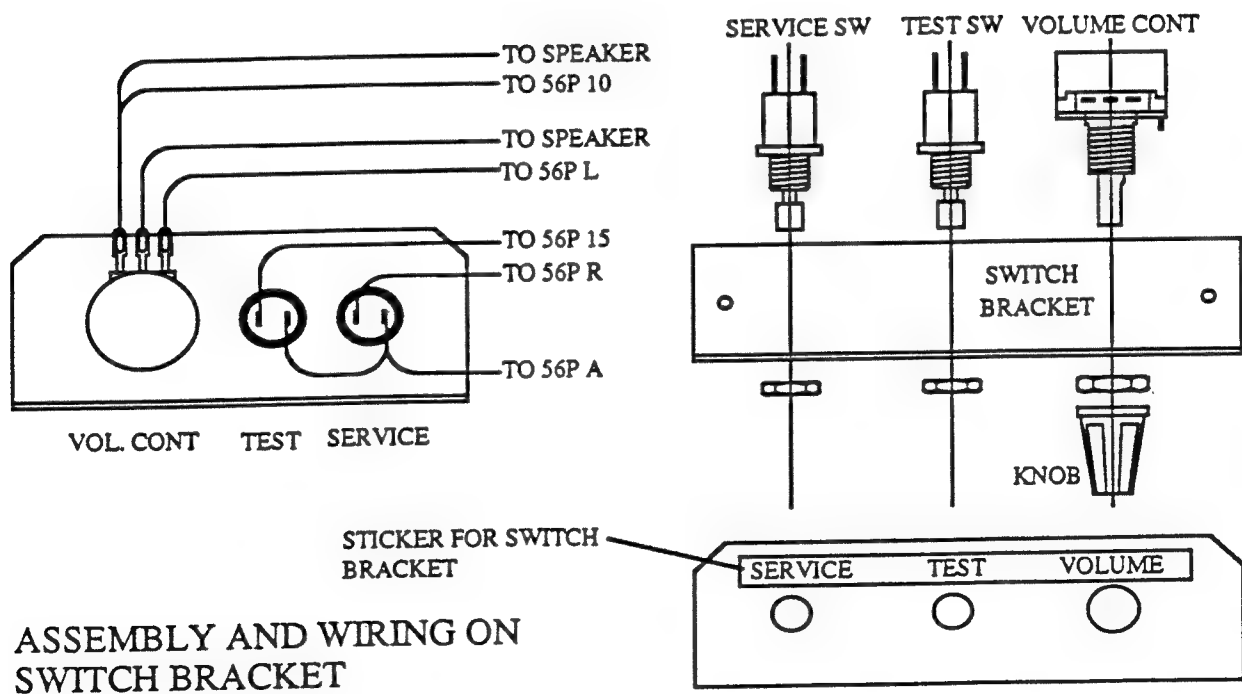

FIGURE 4
24. Connect the SERVICE SWITCH ASSEMBLY as follows: (see figure 4.)